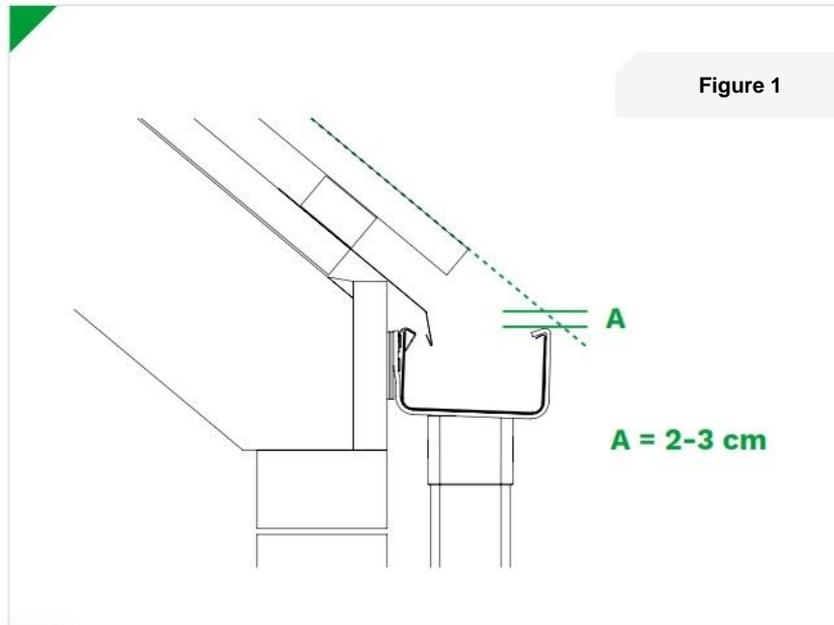

Figure 1
- 1.11. Setting the gutters in line with the roof plane - the edge of the roof should be 2-3 cm above the outer gutter drip (**Fig. 1**).